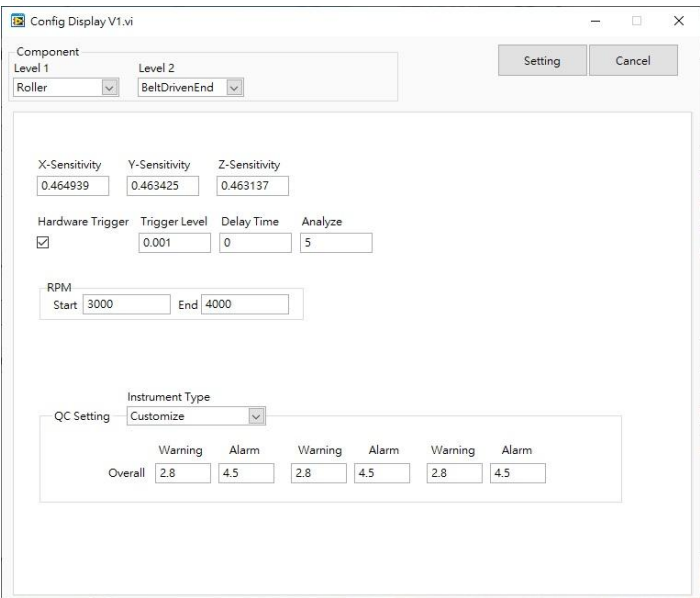

Figure2-40 Aurora Modbus Utility ISO-20816 Analysis Parameter Settings under Roller.BeltDrivenEnd Mode
- Overall QC Setting: Tri-axial time-domain feature failure determination thresholds; readings for all three axes display Warning 2.8, Alarm 4.5, as shown in Figure2-38; if an equipment category defined in ISO-20816 is selected, the system will automatically populate QC, as shown in Figure2-40.